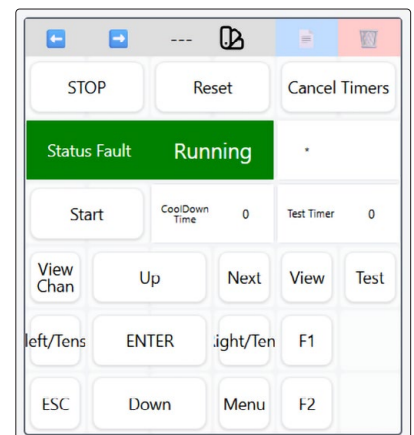

Figure 25
2. In the dashboard-edit view, each block has six buttons at the top, which you can use to begin editing the dashboard (see Figure 25):